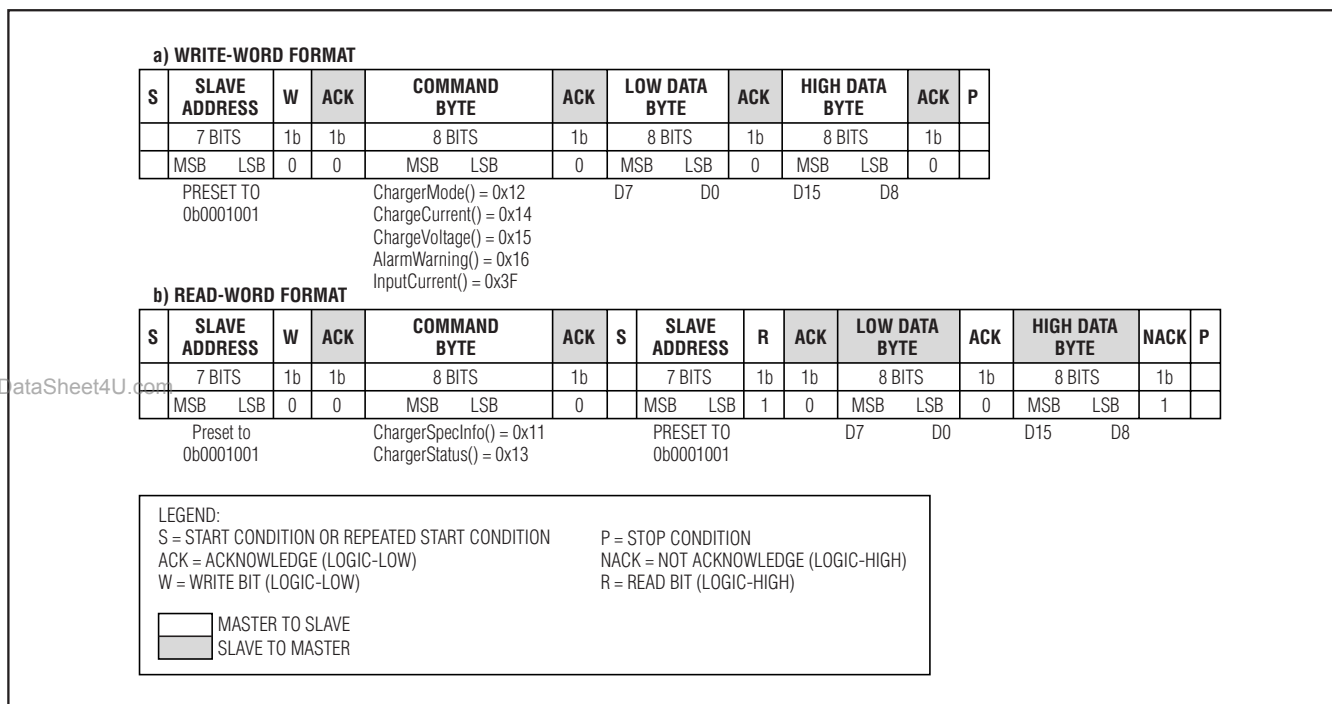

Figure 3. SMBus Write-Word and Read-Word Protocols
To set the charge current, use the SMBus to write a 16-bit ChargeCurrent() command using the data format listed in Table 2. The ChargeCurrent() command uses the Write-Word protocol (see Figure 3). The command code for ChargeCurrent() is 0x14 (0b00010100). When  $RS2 = 10m\Omega$ , the MAX8731A provides a charge current range of 128mA to 8.064A, with 128mA resolution. Set ChargeCurrent() to 0 to terminate charging. Upon reset, the ChargeVoltage() and ChargeCurrent() values are cleared and the charger remains off until both the ChargeVoltage() and the ChargeCurrent() commands are sent. Both DHI and DLO remain low until the charger is restarted.
To set the input current limit, use the SMBus to write a 16-bit InputCurrent() command using the data format listed in Table 3. The InputCurrent() command uses the Write-Word protocol (see Figure 3). The command code for InputCurrent() is 0x3F (0b00111111). When  $RS1 = 10\text{m}\Omega$ , the MAX8731A provides an input-current-limit range of 256mA to 11.004A, with 256mA resolution. InputCurrent() settings from 1mA to 256mA result in a current limit of 256mA. Upon reset the input current limit is 256mA.
The MAX8731A receives control inputs from the SMBus interface. The MAX8731A uses a simplified subset of the commands documented in System Management Bus Specification V1.1, which can be downloaded from www.smbus.org. The MAX8731A uses the SMBus Read-Word and Write-Word protocols (Figure 3) to communicate with the smart battery. The MAX8731A performs only as an SMBus slave device with address 0b0001001\_ (0x12) and does not initiate communication on the bus. In addition, the MAX8731A has two identification (ID) registers (0xFE): a 16-bit device ID register and a 16-bit manufacturer ID register (0xFF).